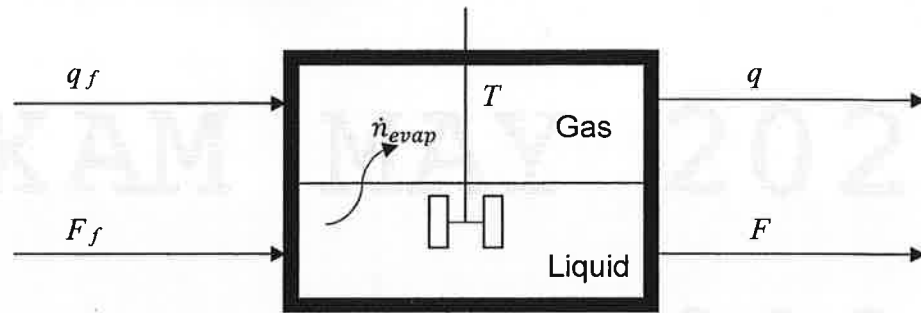

FIGURE Q1a: A liquid surge tank with gas blanket
- i. There are **TEN (10)** pages in this Question Booklet including the cover page and appendix.
1. a. Liquid surge tanks, particularly those containing hydrocarbons, often have a gas "blanket" of nitrogen. This gas blanket is maintained to prevent the accumulation of explosive vapors above the liquid. The inert nature of nitrogen helps to reduce the risk of ignition and explosion by displacing flammable vapours that could be present. An example of a liquid surge tank is shown in **FIGURE Q1a**.